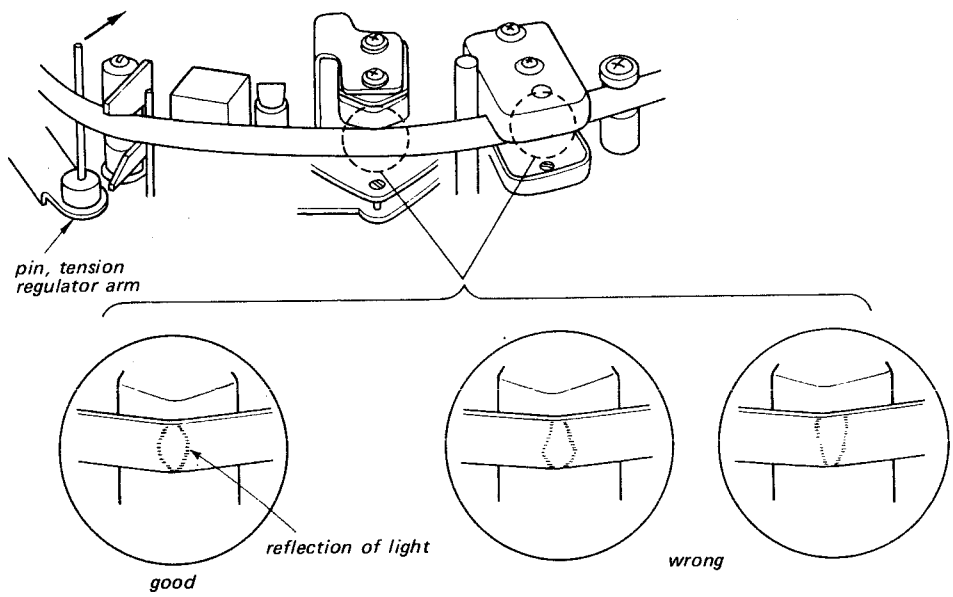

Fig. 12-6 Tentative record and p.b. heads adjustment
- (4) Turn the record head height adjusting screw so that the upper edge of the record head is 0.025 mm lower than that of the tape and memorize the angle of turns.
- (5) Turn the record head zenith adjusting screw by the same angle of turns to the same direction of the record head height adjusting screw.
- (6) Set the machine at 19 cm/s (7½ ips) tape speed.
- (7) Make the tape loose a little by pushing the tension regulator arm pin in the direction shown with arrow in Fig. 12-6 and then adjust the p.b. head and the record head zenith adjusting screws to obtain the reflection of light as shown in Fig. 12-6.